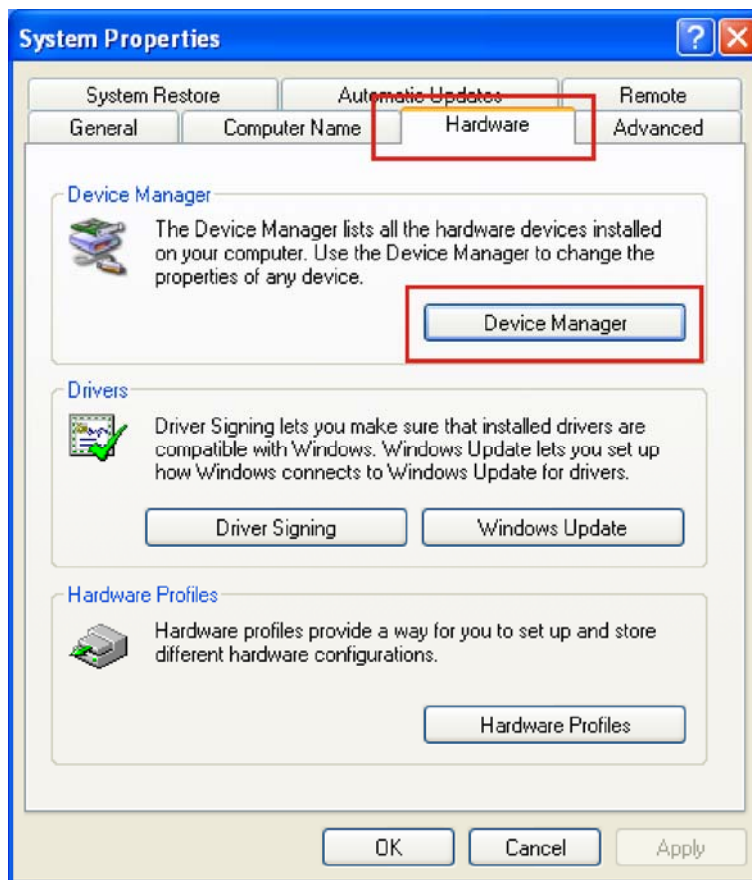

Figure 6-16: Device Manager Tab
Step 3: Select the Hardware tab and click the **DEVICE MANAGER** tab (Figure 6-16).